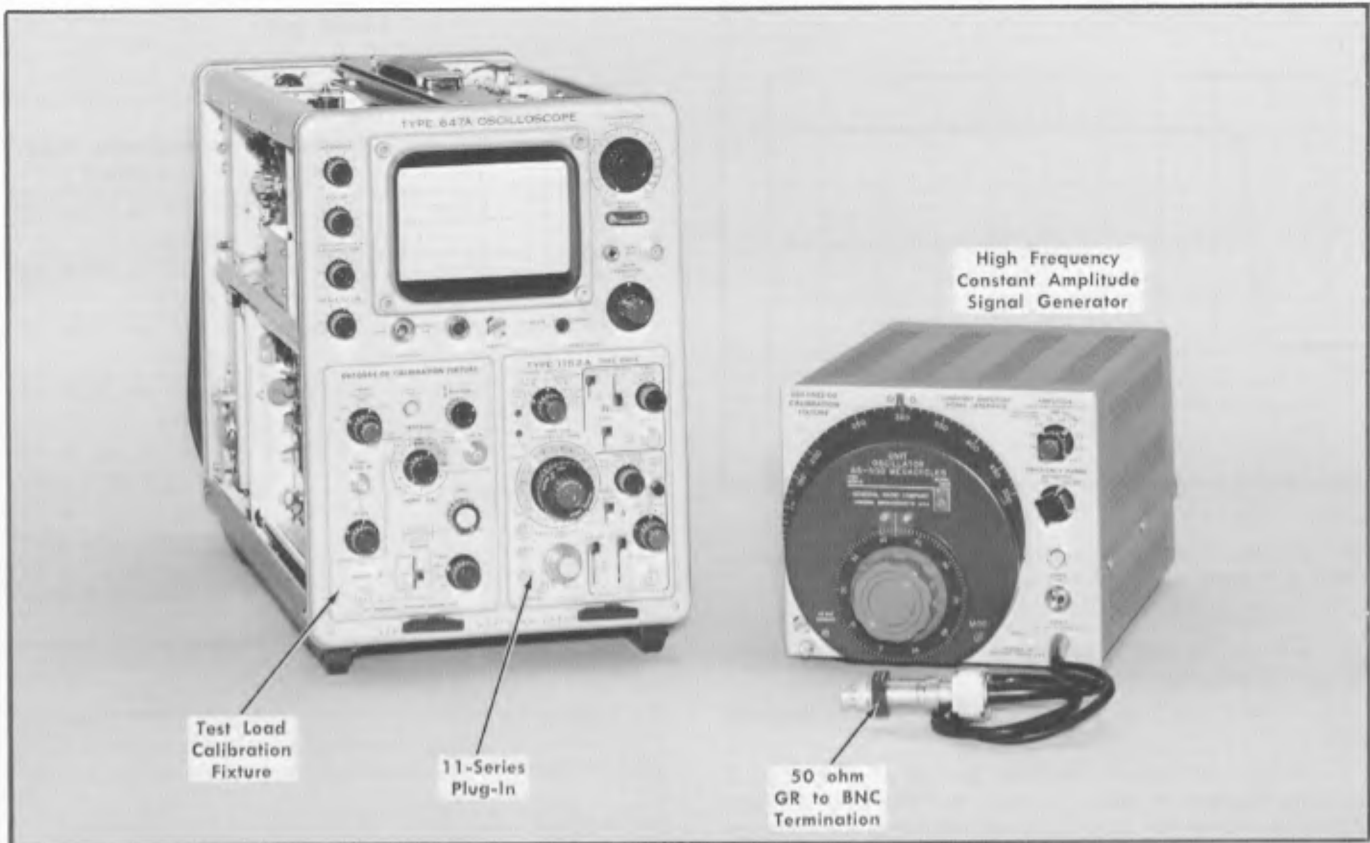

Fig. 6-20. Initial test equipment setup for steps 19 and 20.
a. Test equipment setup is shown in Fig. 6-20.